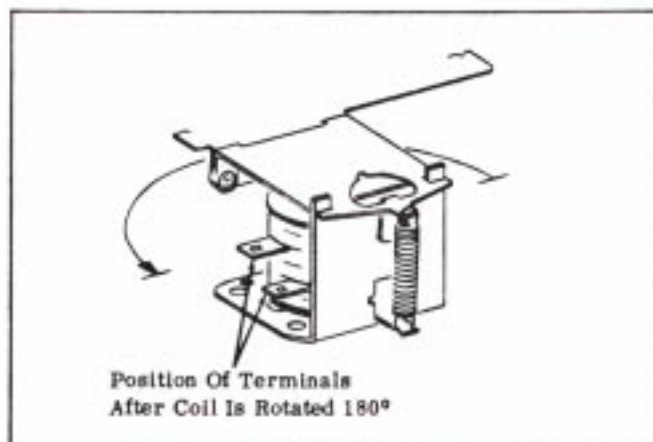

FIGURE 4
2. Rotate the Coil 180° and tighten the Screw loosened in step 1. See Figure 4.